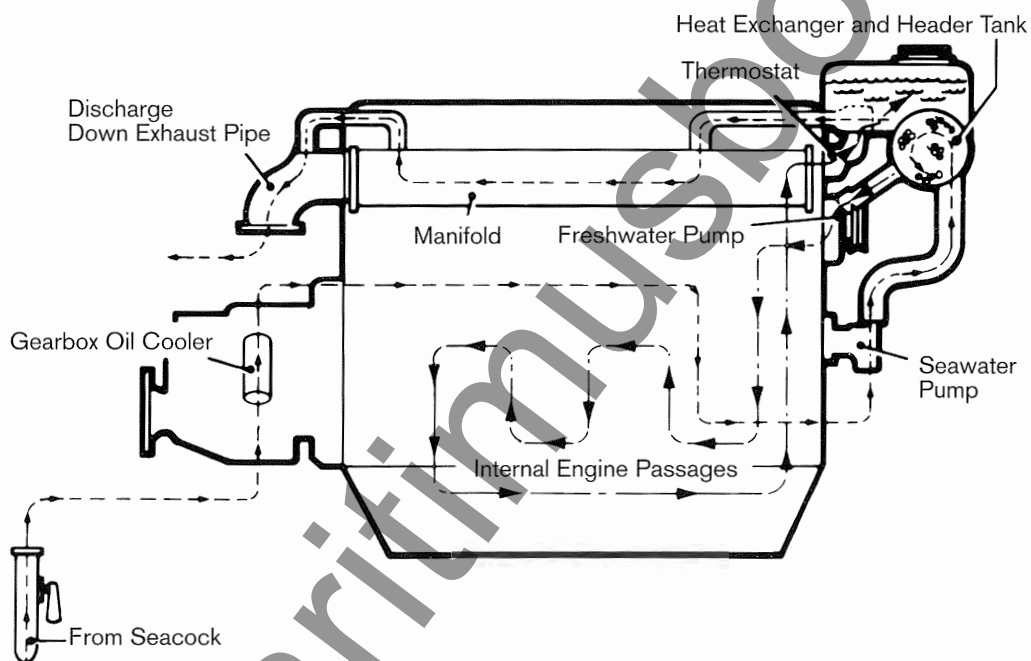
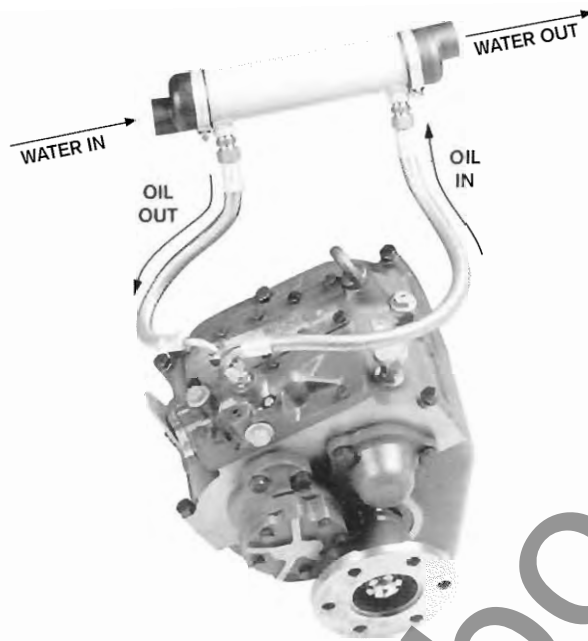

Fig. 8 Engine and gearbox cooling circuit
Fig. 9 Oil cooler connections
**CAUTION:** Failure to correctly install an oil cooler into the lubrication circuit can result in damage to the gearbox see Fig. 8 below and page 17, Fig. 9 and 10 for correct circuit. After a gearbox failure it is extremely important to flush cooler and hoses completely to remove any contamination. Failure to do so could result in the new/repaired gearbox failing prematurely.
The oil cooler can now be connected to the engine cooling system as outlined at Fig. 8.